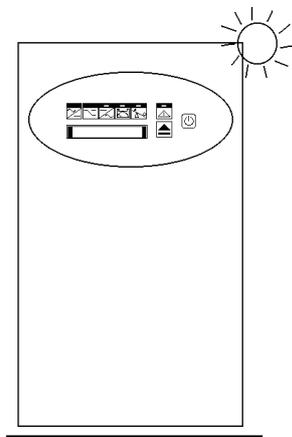

Fig 5
c. Free from sun shine, rain drop or moisture Fig5, Fig6.